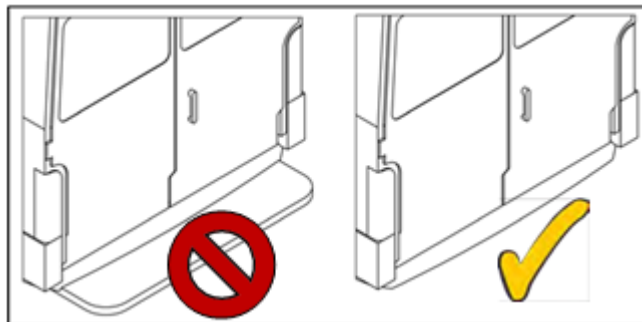

Figure 8
- If the vehicle has a bumper with an integrated step, replace it with a standard bumper (see Fig. 8).